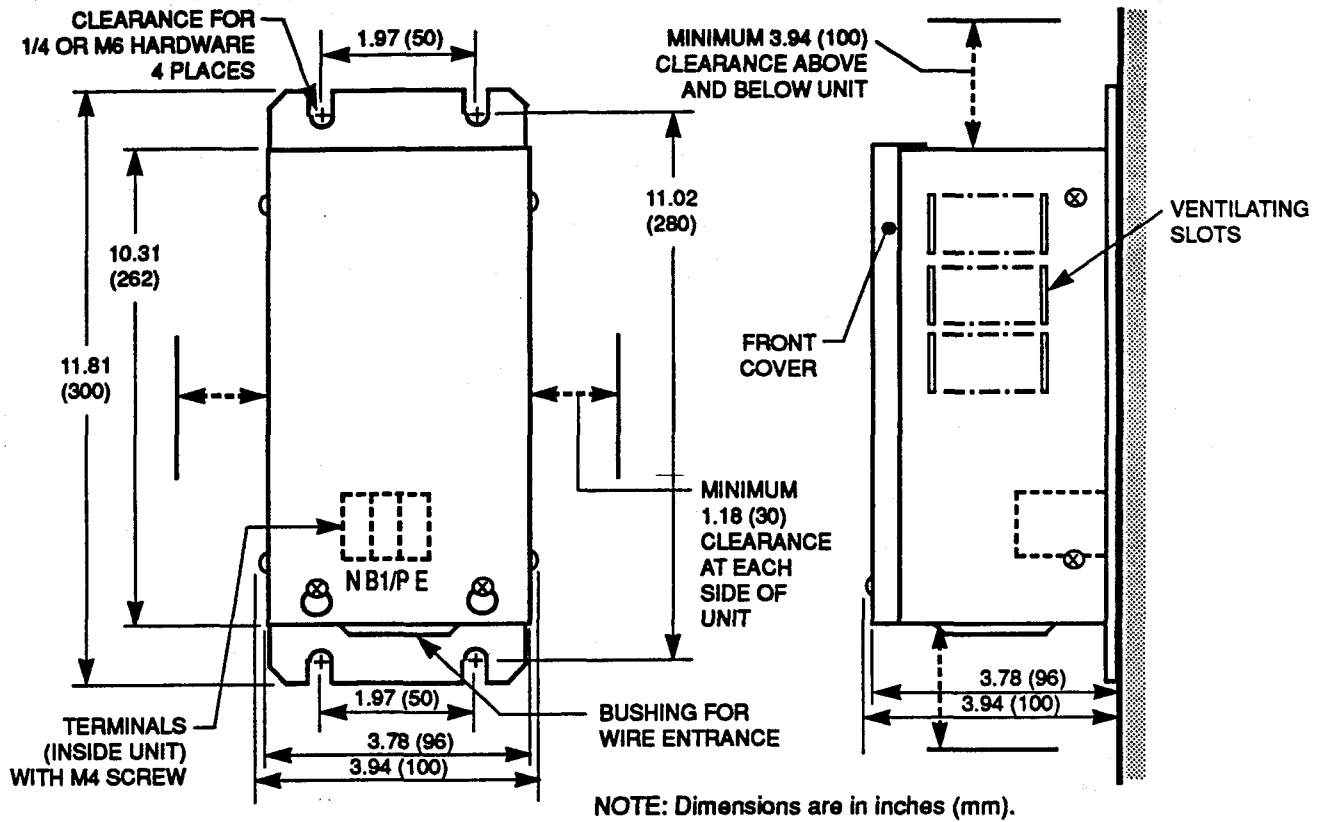

Figure 2. Capacitor Unit Dimensions
3. Locate a position on the wall or panel close to the GPD 503 for mounting of the capacitor unit. Note clearance requirements given in Figure 2. Using Figure 2 as reference for hole spacing, drill and tap four holes (1/4 or M6) for mounting screws.